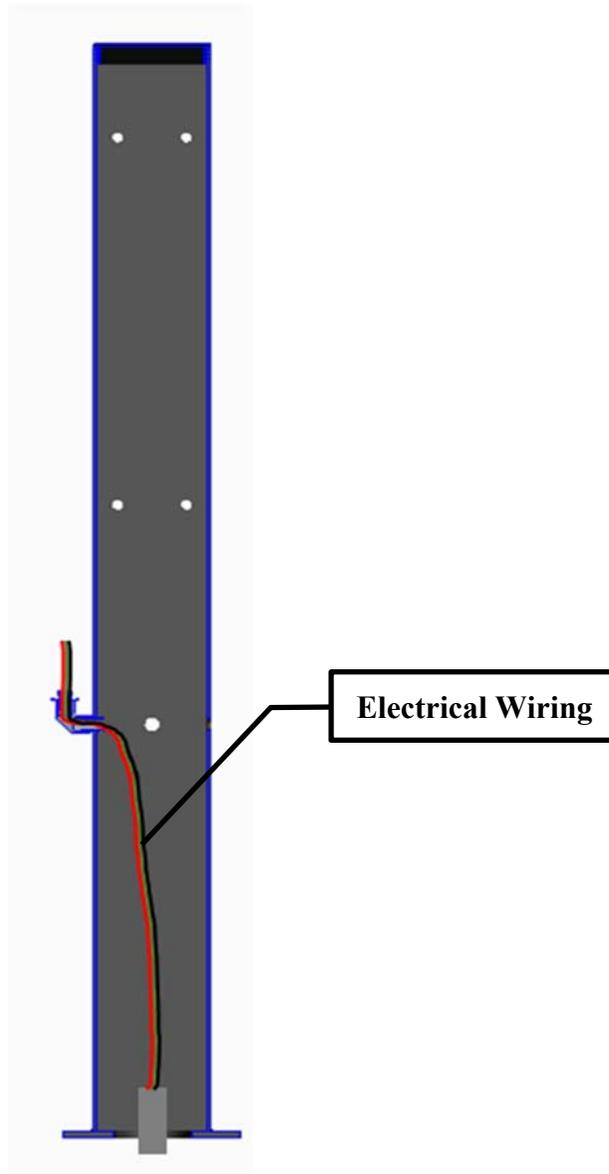

Figure 10: Cable Routing Thru Post
- E. Run electrical wire through post and fittings in the appropriate locations. See PowerPost EVSE Installation manual for recommended wire gauge. See Figure 10.